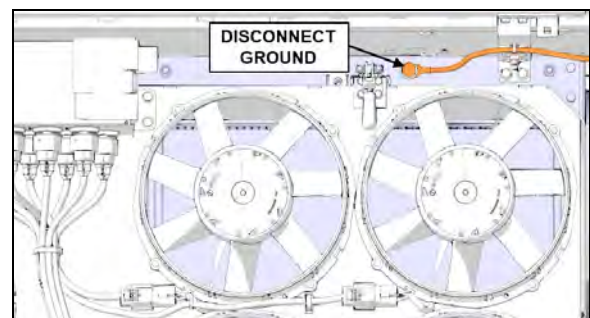

FIGURE 33: COOLING ASSEMBLY GROUND
13. Disconnect the ground connection at the upper right corner of the cooling assembly (Figure 33).